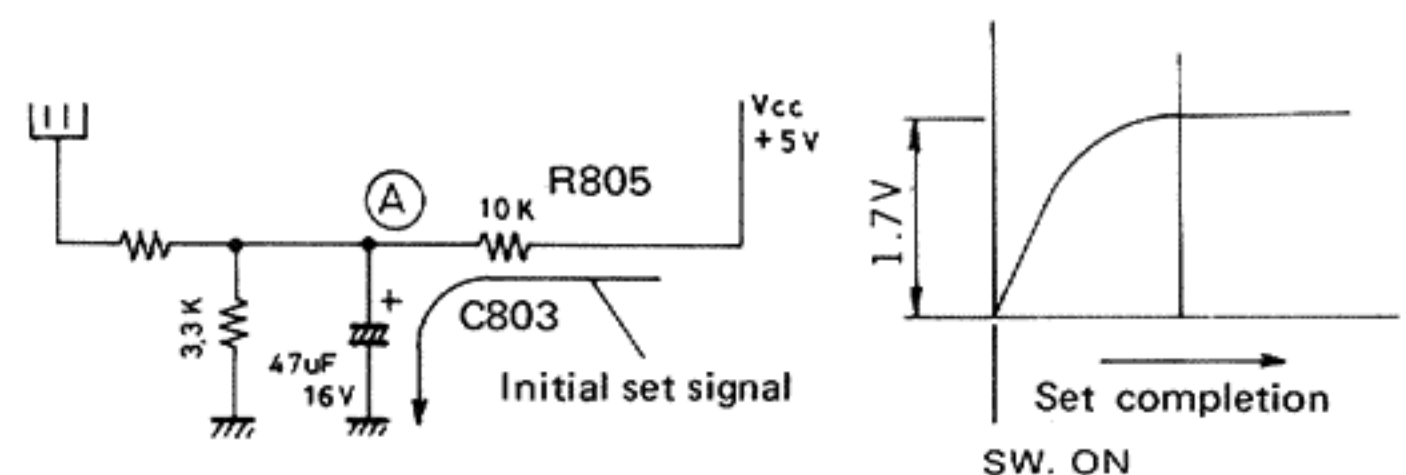

Fig. 10
Initializing M53393 is performed by grounding Pin (11). This permits use of the turntable, only when the power switch is turned on. The shape of the initialization signal is determined by the CR combination as shown in Figure 10.